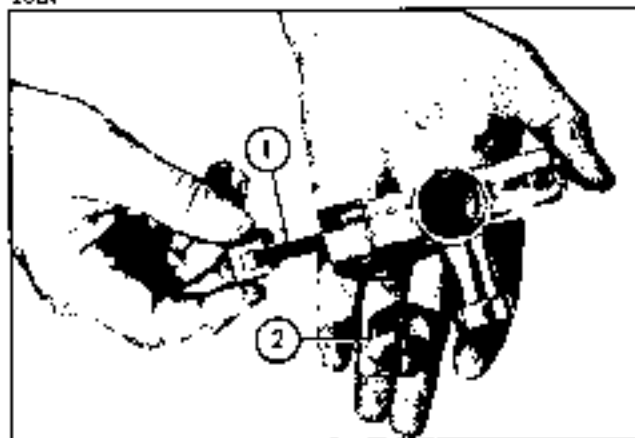

Fig. 132
c. Withdraw valve assembly from body as shown in Fig. 132.